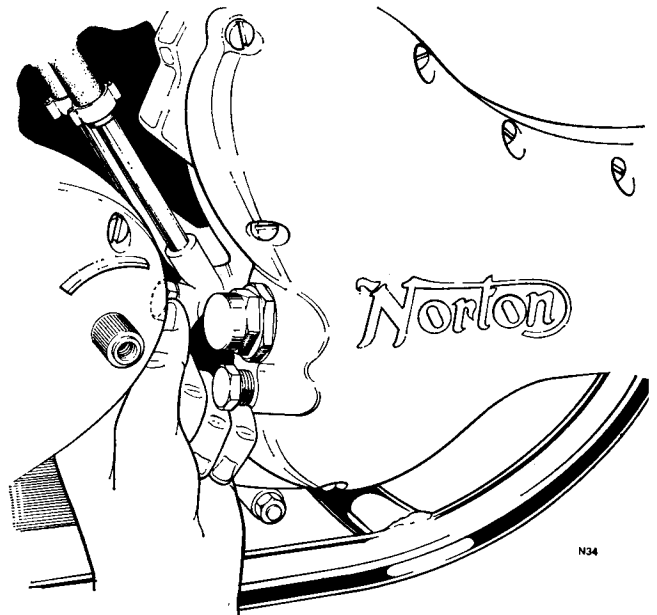

Fig. F1 Removing oil junction block securing bolt
- 23 Place a receptacle of sufficient size to contain the contents of the oil tank below the rear of the crankcases, remove the bolt securing the oil junction block to the crankcases, pull the block and pipes away from the crankcases and allow the oil to drain. Alternatively after parting the junction block from the crankcases, raise the junction block and tie with wire to the airbox to prevent oil draining from the tank, or protect the feed pipe with cardboard and compress the pipe with grips to prevent oil draining (see Fig. F1).